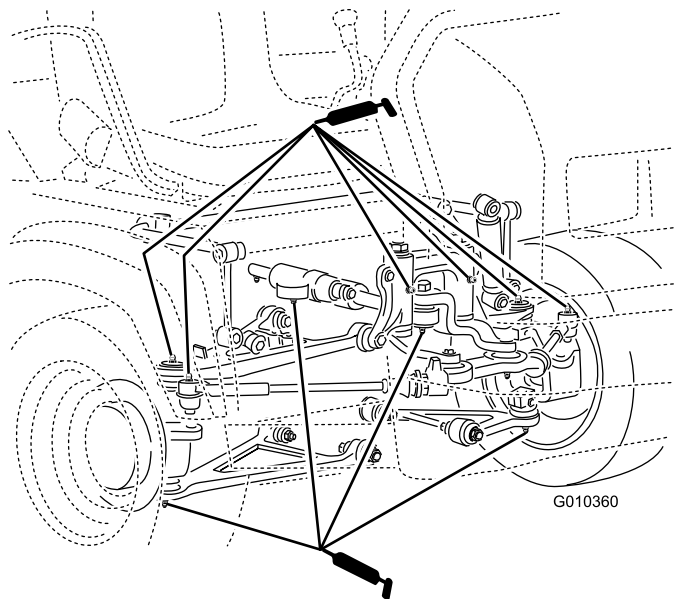

Figure 26
- **Ball joints (4);** refer to Figure 26
- **Tie rods (2);** refer to Figure 26
- **Pivot mounts (2);** refer to Figure 26
- **Steering cylinder (2);** refer to Figure 26